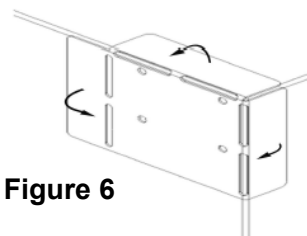

Figure 6
**IMPORTANT:** Wall or framing material must have a 1-inch clearance to the back, sides and top of the firebox. Stand-offs are attached to the rear, top corners of the firebox to maintain the required clearance to combustibles. Using a screwdriver and pliers, bend each of the three tabs outward 90 degrees to provide the required spacing, see figure 6.